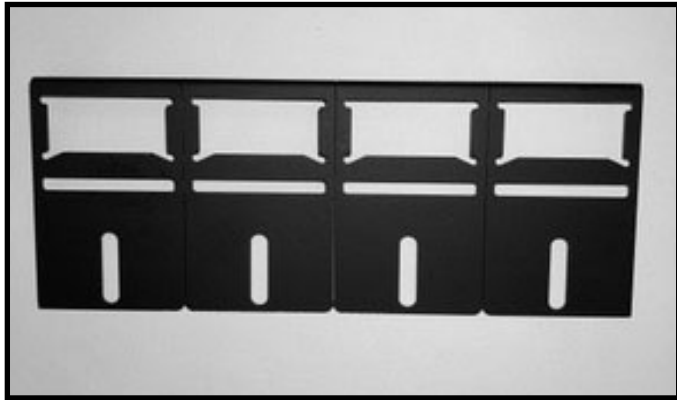
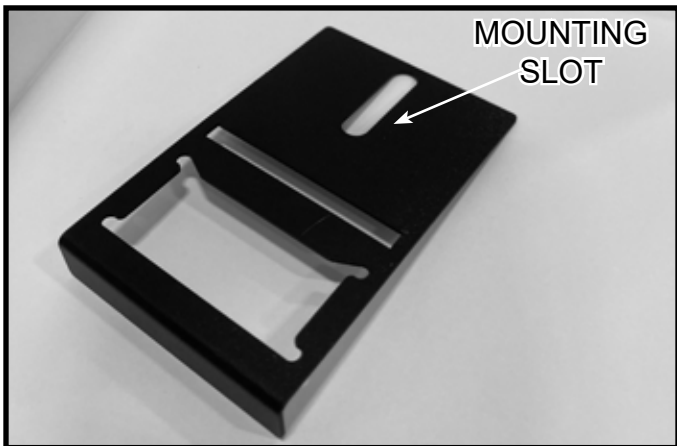

Figure 1 4-IN-1 Retaining Bracket Assembly
Figure 2 Individual Refractory Bracket
1. Break refractory bracket assembly by hand into four individual clips as shown in Figure 1 and Figure 2.